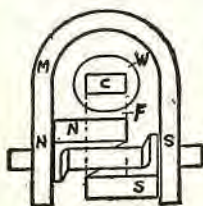

Fig. 4
The "Mason" principle, on which the Dixie operates is shown in Fig. 4. The magnet has two rotating polar extremities (N) (S), which are always of the same polarity, never reversing. These poles are in practical contact with the inner cheeks of the permanent magnet (M), all air gaps being eliminated. Together with the U-shaped magnet, they form a magnet with rotating ends.
The generating winding (W) (Fig. 4) in the Dixie is carried on a small coil placed across the upwardly projecting ends of the two pole-pieces (C) (Fig. 4).
The advance and retard of the Dixie magneto is obtained by shifting the breaker box. But note in Fig. 15 that it is attached to the "coil structure" (C-F-G, Figs. 4 to 7). Therefore the breaker housing and coil structure are all advanced or retarded at the same time. An absolute advance of 30° or more is obtained by simply rotating the coil-carrying structure to which the breaker box is attached, around the axis of the rotating poles N, S (Figs. 4 to 7 and 15).